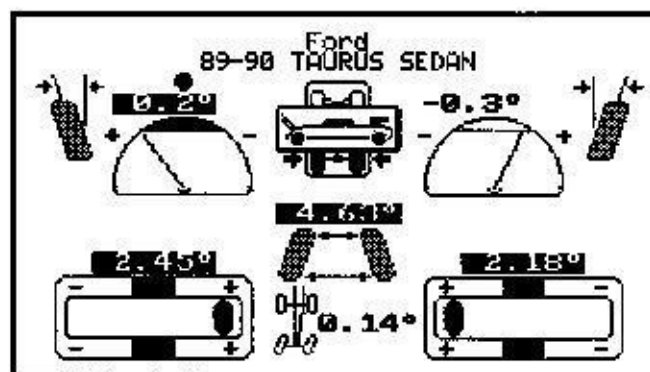

Figure 2-33
- The Jack & Hold meter screen will appear (see Figure 2-33).